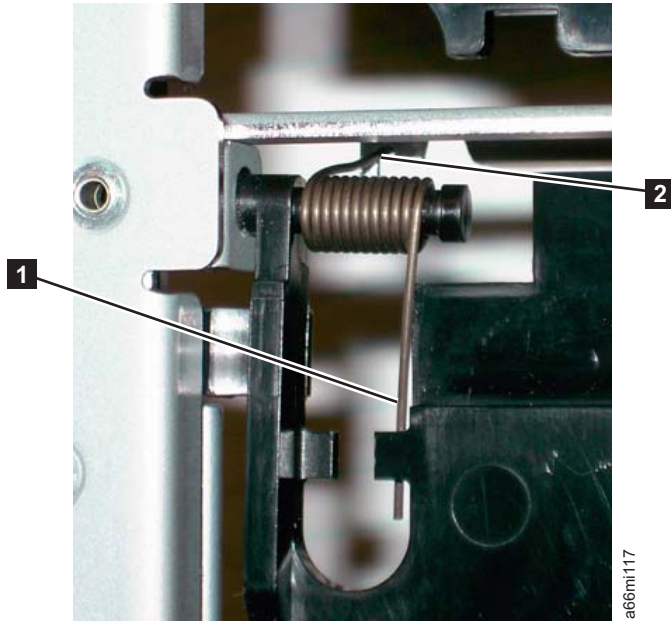

Figure 8-29. I/O Safety Flap Front Spring Wire
2. Unhook the front spring wire (**1** in Figure 8-29) from the tab on the I/O flap.
3. Unhook the rear spring wire (**2** in Figure 8-29) from the notch in the frame.